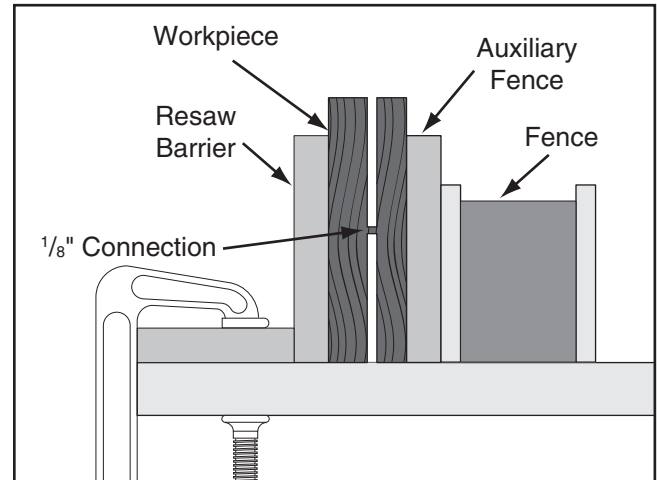

Figure 71. Ideal completed resaw cut.
7. Raise the blade approximately an inch, or close to half the height of the workpiece (**Figure 71**), whichever is less.
10. Repeat **Steps 7–9** until the blade is close to half of the height of the board to be resawn. The ideal completed resaw cut will leave an $\frac{1}{8}$ " connection when the resawing is complete as shown in **Figure 71**. Leaving an $\frac{1}{8}$ " connection will reduce the risk of kickback.